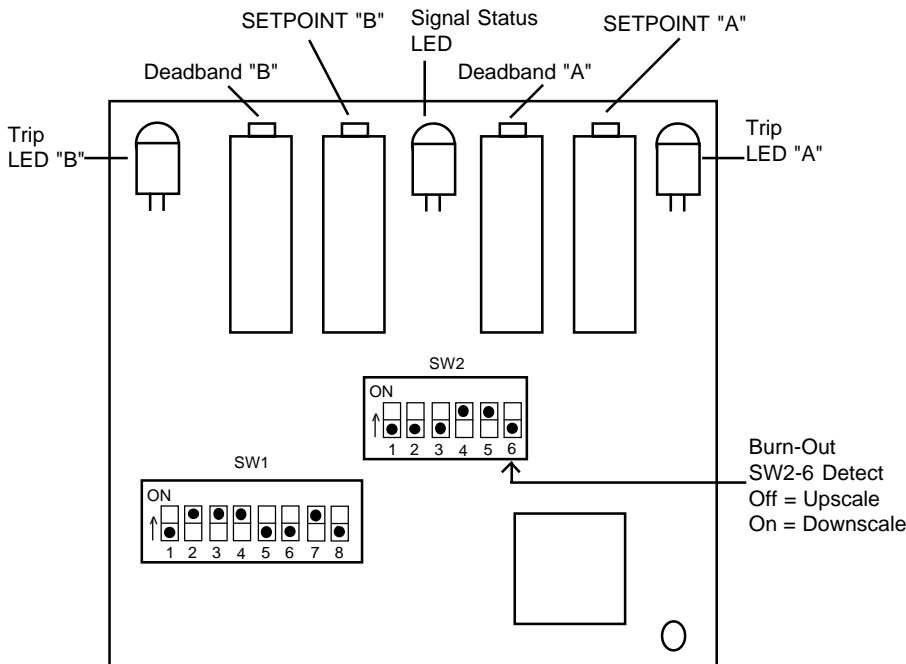

Figure 4: AP1290 Factory Calibration Type "J" 0-360°C Dual HI/LO, Non-Latching, Non-Failsafe
Refer to Figure 4 for configuration.
2. Choose the desired upscale/downscale thermocouple burnout detection by setting position 6 of SW2. See Figure 4.